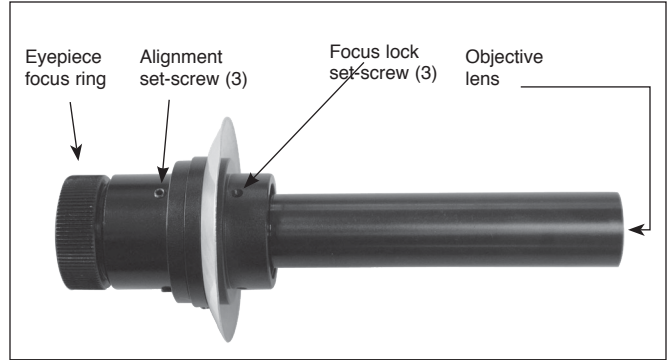

Figure 7. The polar axis finder scope.
The AstroView mount comes with a polar axis finder scope (**Figure 7**) housed inside the right ascension axis of the mount. When properly aligned and used, it makes accurate polar alignment quick and easy to do. Remove the caps from both sides of the AstroView mount’s right ascension axis to view through the polar axis finder scope.
3. Look through the polar finder again. Is the object being viewed still centered on the crosshairs? If it is, then no further adjustment is necessary. If not, then look through the polar finder while rotating the mount about the R.A. axis. You will notice that the object you have previously centered moves in a circular path. Use the three alignment set-screws on the polar axis finder (**Figure 7**) to redirect the crosshairs of the polar finder to the apparent center of this circular path. You will need a 1.5mm hex key (not included) to adjust the three alignment set-screws.
The polar axis finder scope is normally focused by simple rotation of the eyepiece focus ring. However, if after adjusting the focus ring you find that the image of the reticle is sharp, but the stars are out of focus, then you must adjust the focus of the polar axis finder’s objective lens. To do this, first remove the polar axis finder from the mount. Look through the polar axis finder at a star (at night) or distant object at least 1/4 mile away (during daylight). Use the eyepiece focus ring to bring the reticle into sharp focus. Now, use a 1.5mm hex key (not included) to carefully loosen the three focus lock set-screws (**Figure 7**) by a few turns each and thread the entire objective end of the finder